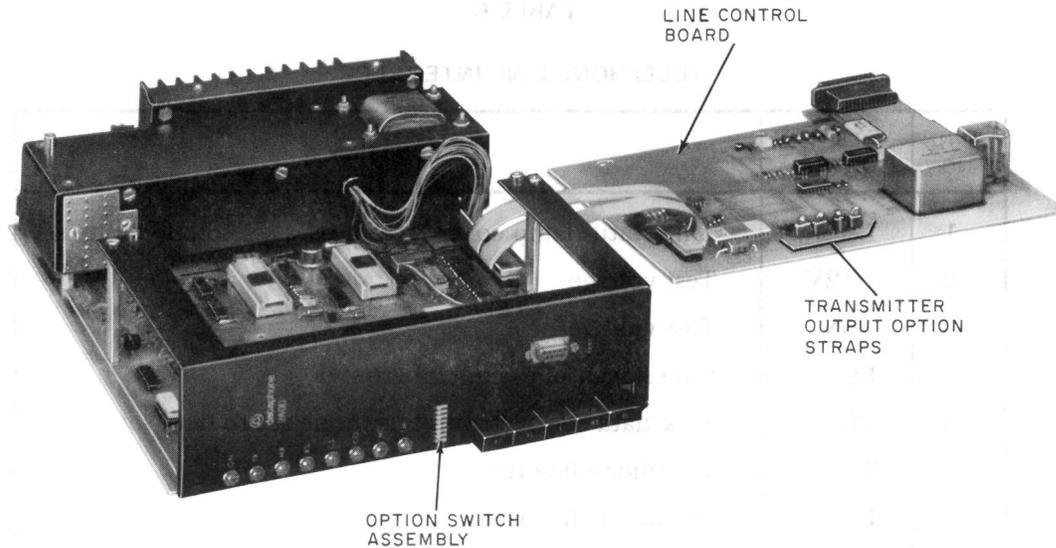

Fig. 1—Data Set Unfolded for Access to Option Straps
(6) Fold the line control board over to the right and place it on a flat surface. Figure 1 shows the data set unfolded for access to the option straps.